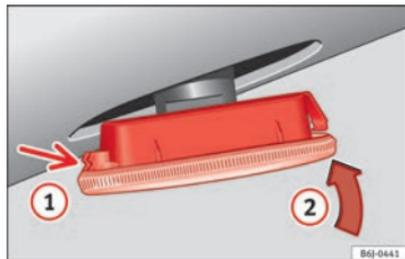

Fig. 199 Side turn signal
- First place the turn signal in the opening in the bodywork, fixing the tabs ⇒ Fig. 199, arrow **1**.
- Insert the bulb as shown by the arrow **2** ⇒ Fig. 199. ■